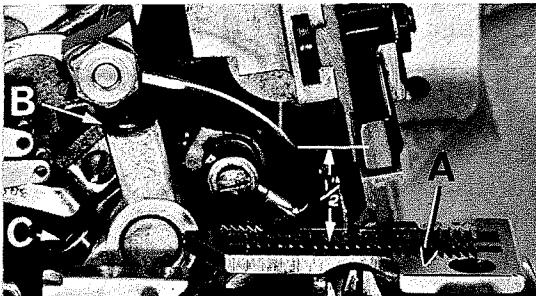

Fig. 3
With throat plate assembled in position, needle should center in the front end of needle slot. When needle is at high position, needle point should be set 1/2 inch above throat plate (A, Fig. 3) for Styles 39500 FA, FB, FP, FY, GF, GS, JE and JG; 15/32 inch for Styles 39500 GA and JF. To align needle or set the height above the throat plate, move needle driving arm (B, Fig. 3) by loosening clamp screw (C). Remove throat plate.